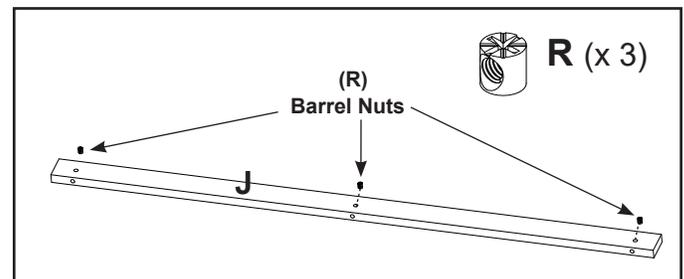

Figure 26
- Install three (3) Barrel Nuts (R) into part "J" with the arrows in the orientation shown on page 2 and Figure 26.